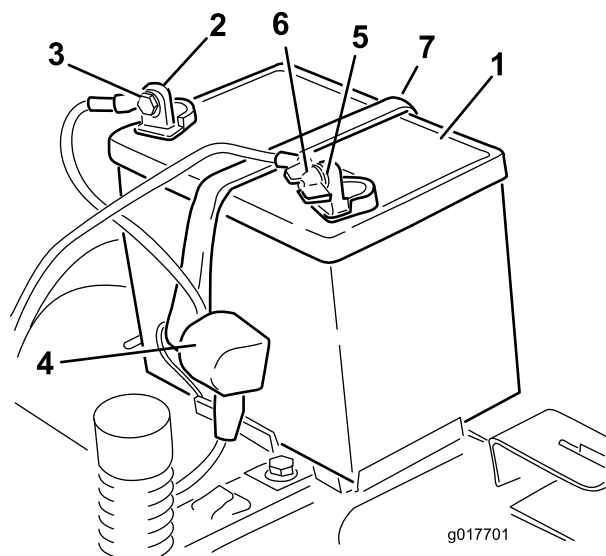

Figure 37
4. Disconnect the negative (black) ground cable from the battery post (Figure 37). Retain all fasteners.
5. Slide the rubber cover up the positive (red) cable. Disconnect the positive (red) cable from the battery post (Figure 37). Retain all fasteners.
6. Remove the battery hold-down (Figure 37) and lift the battery from the battery tray.
1. Position the battery in the tray (Figure 37).
5. Secure the battery with the hold-down (Figure 37).